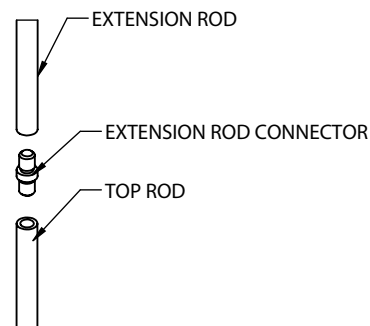

FIGURE 2-2
- B. For devices used on doors of 10 foot height the top rod comes in two pieces. Connect the two ends using the extension rod connector (see Figure 2-2).